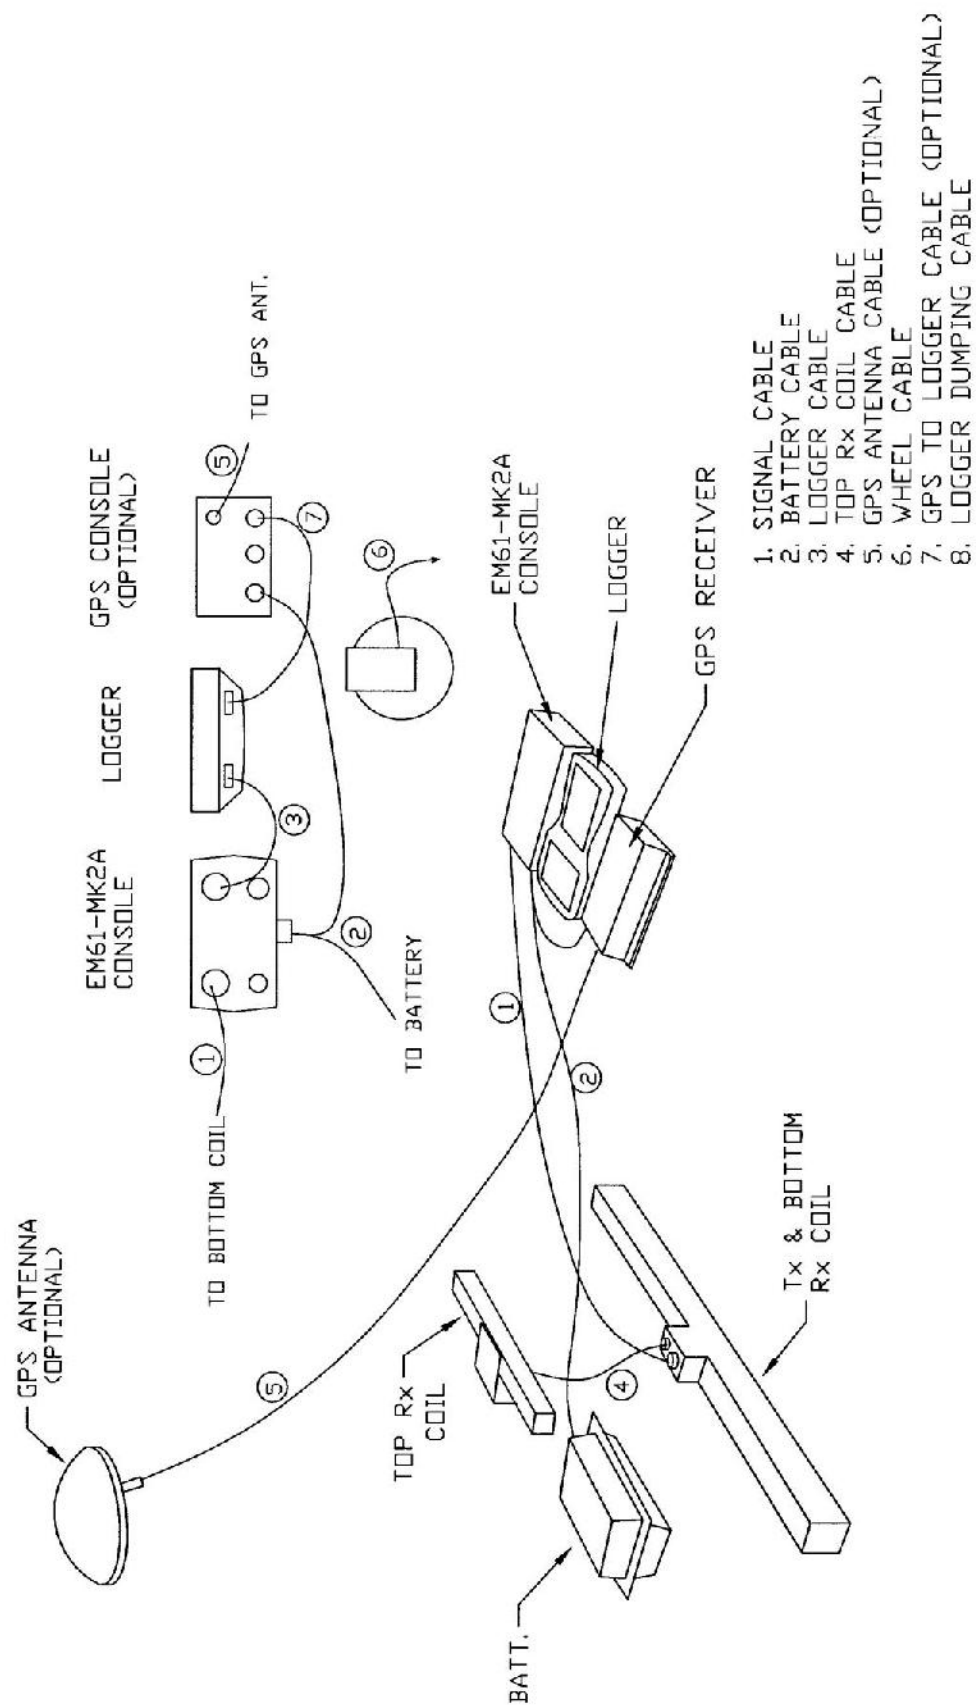

FIGURE 2
Connect the wheel cable (6) to the odometer connector on the bottom coil frame. Interconnect the bottom and top coil with the coil interconnection cable (4) as per Fig. 2.
Set the fresh (recharged) battery into the battery cradle located in the middle of the bottom coil. Interconnect the "REC" connector on the EM61-MK2A console with the logger using logger cable (3), and connect the "COIL" connector on the console to the coil connector box located on the bottom coil using cable (1), as indicated on Figure 2. Connect battery, EM61MK2A console and GPS console with battery "Y" cable (2).